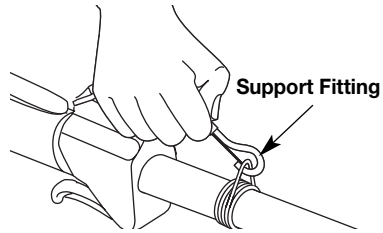

Fig. 4
3. Put the harness on over your head and onto your shoulder. Snap it on to the support fitting (Fig. 4).